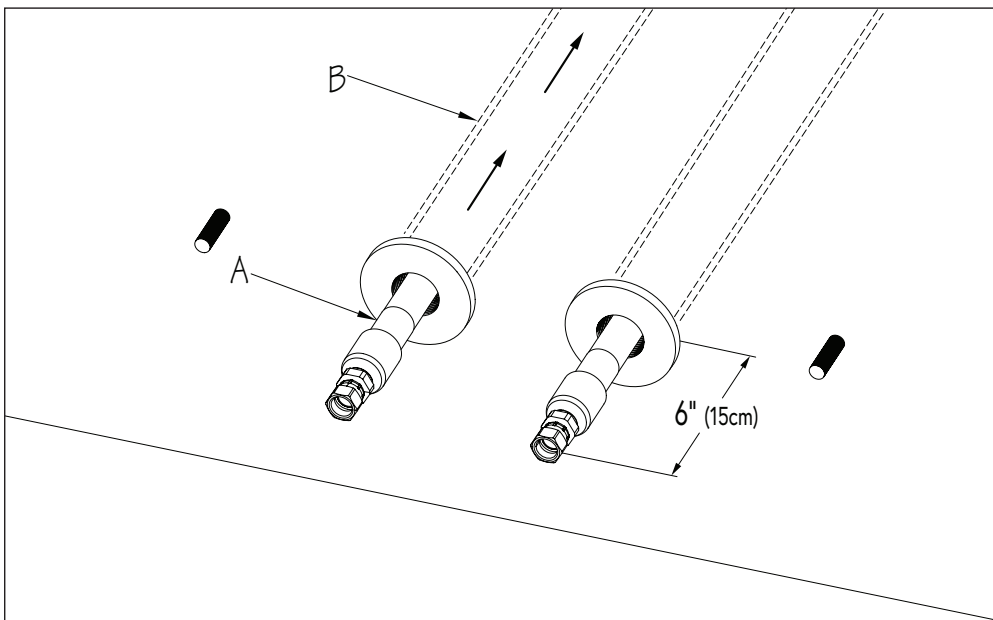

Fig. 11
Route the Run Hoses (A) into the fittings from the inside of the pool and through the conduit (B) to the Hydraulic Power Unit outside the pool. The hoses should extend no more than 6" (15cm) into the pool. **AGAIN, VERIFY THE POOL LABEL ON THE END OF EACH HOSE IS POOLSIDE** (Fig. 11).